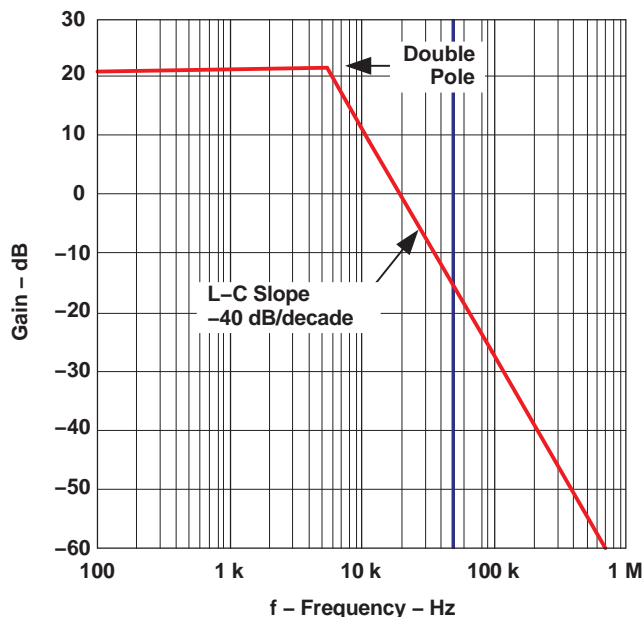

Figure 25. PWM and L-C Filter Gain
A Bode plot of the PWM and LC filter is shown in Figure 25.
- From Figure 25, the required gain is calculated at 15.8 dB. Equation 44 sets the value for R_{PZ2} . A resistor for R_{PZ2} with value of 12.7 k Ω is used. C_{Z2} is calculated using Equation 48 and the desired frequency for the second zero, $C_{Z2} = 1475$ pF. A 2200 pF capacitor is used.